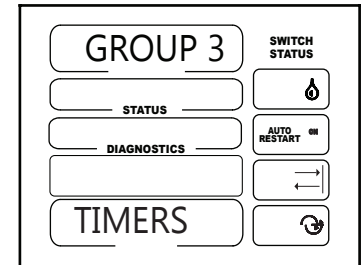

Figure 21-1
2. GROUP 3 will be shown in the display screen. See figure 21-1.